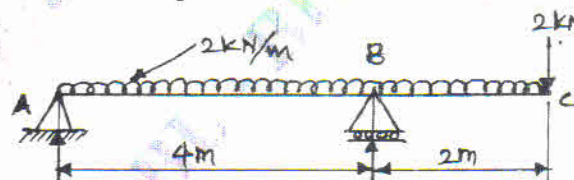

Fig.Q6(b)
- b. An overhanging beam ABC is located as shown in Fig.Q6(b). Develop the SFD and BMD. Also locate point of contraflexure.